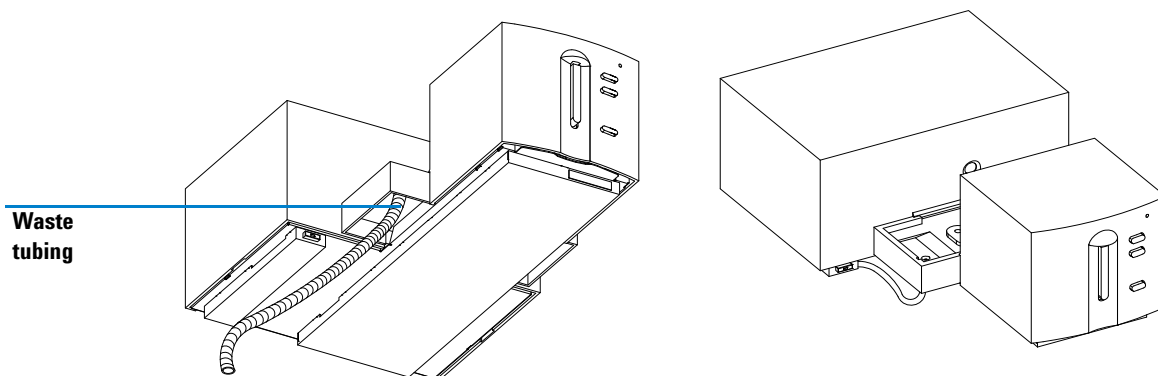

Figure 1 Connecting the Waste Tubing
- 1 Lift the front part of the spectrophotometer up so that you can locate the waste outlet underneath the sample pan as shown in Figure 1.